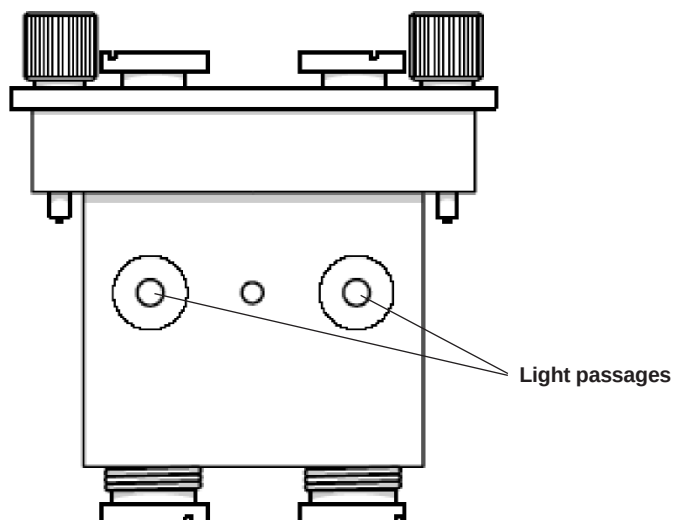

Fig. 13.23. Flow cell assembly light passages.
9. Look through the light passages (Figure 13.23) to inspect the flow cell; there should be no debris or obstruction.